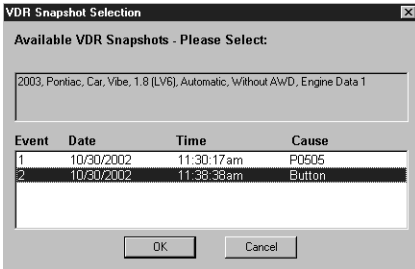

Figure 4.2: VDR Snapshot Selection Dialog Box
- 2 Verify the connections and then click the **OK** button to continue. This displays the VDR Snapshot Selection dialog box (Figure 4.2), which lists the snapshots saved in the VDR tool (up to four snapshots).